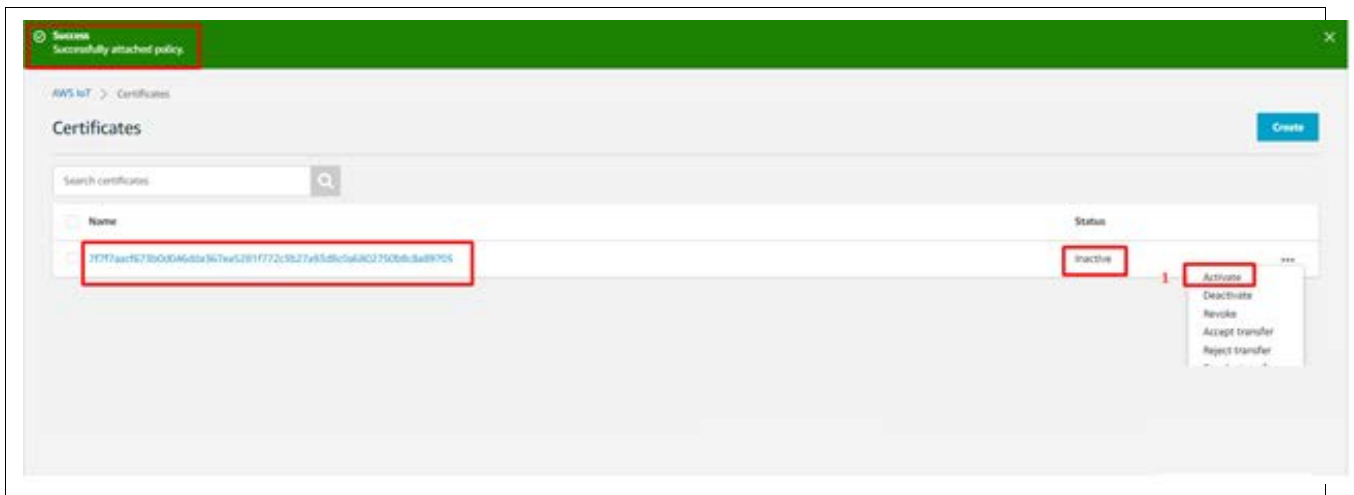

Figure 26. Activate the Certificate Created
2. The newly created certificate needs to be activated in order to use it. To activate the certificate, just click on **Activate** as shown in Figure 26.